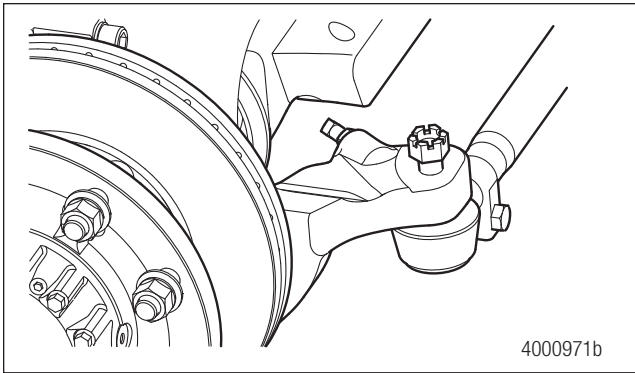

Figure 5.2
12. Disconnect the tie rod connection at the knuckle. Use a tie rod end puller, if available, to separate the tie rod end. To help loosen the stud, use a mallet or partially reinstall the nut with the castle side down until it is even with the top of the threaded shaft, and then strike the nut/shaft with the mallet until the stud is loose. Figure 5.2.